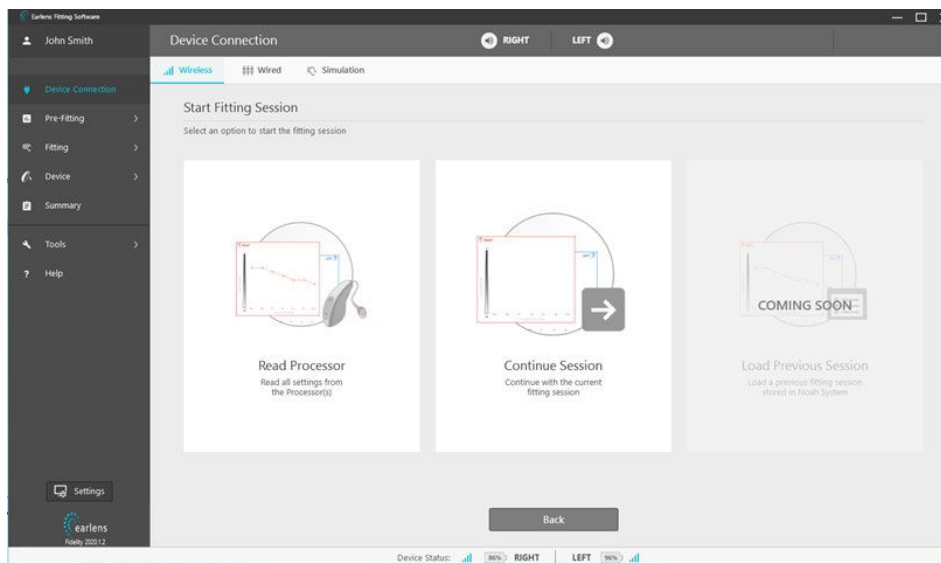

Figure 24: Device connection screen: session options
- b. Select 'Continue Session' to begin fitting (Figure 24). Do not attempt to 'Read Processors' with new Processors.